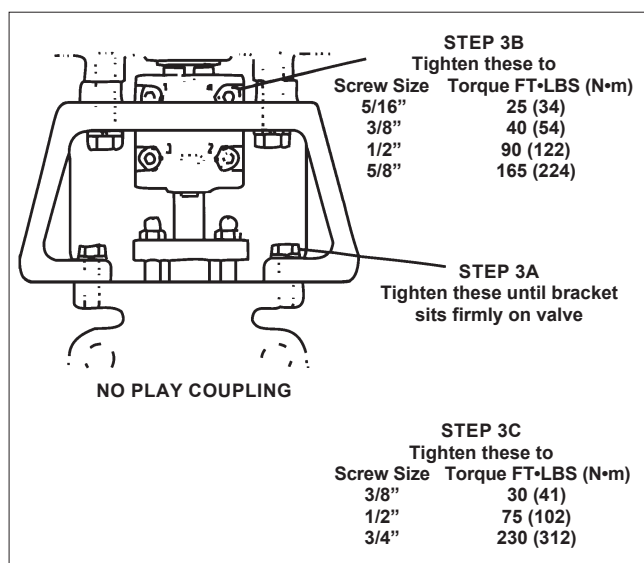

Figure 14
4. Lower actuator and bracket onto valve while engaging actuator stem driver into coupling. Tighten screws just enough to firmly mate bracket to valve. This should allow bracket to shift, allowing the coupling to align the valve and actuator shafts (See **Figure 14, Step 3A**.)
5. Tighten the no-play coupling screws to torques shown in (**Figure 14, Step 3B**). Use alternating sequence shown.
7. Fully tighten the screws holding the bracket to the valve, as shown in (**Figure 14, Step 3C**).
8. Recheck no-play coupling screw torques, using the torques in (**Figure 14, Step 3B**). Use alternating sequence shown.